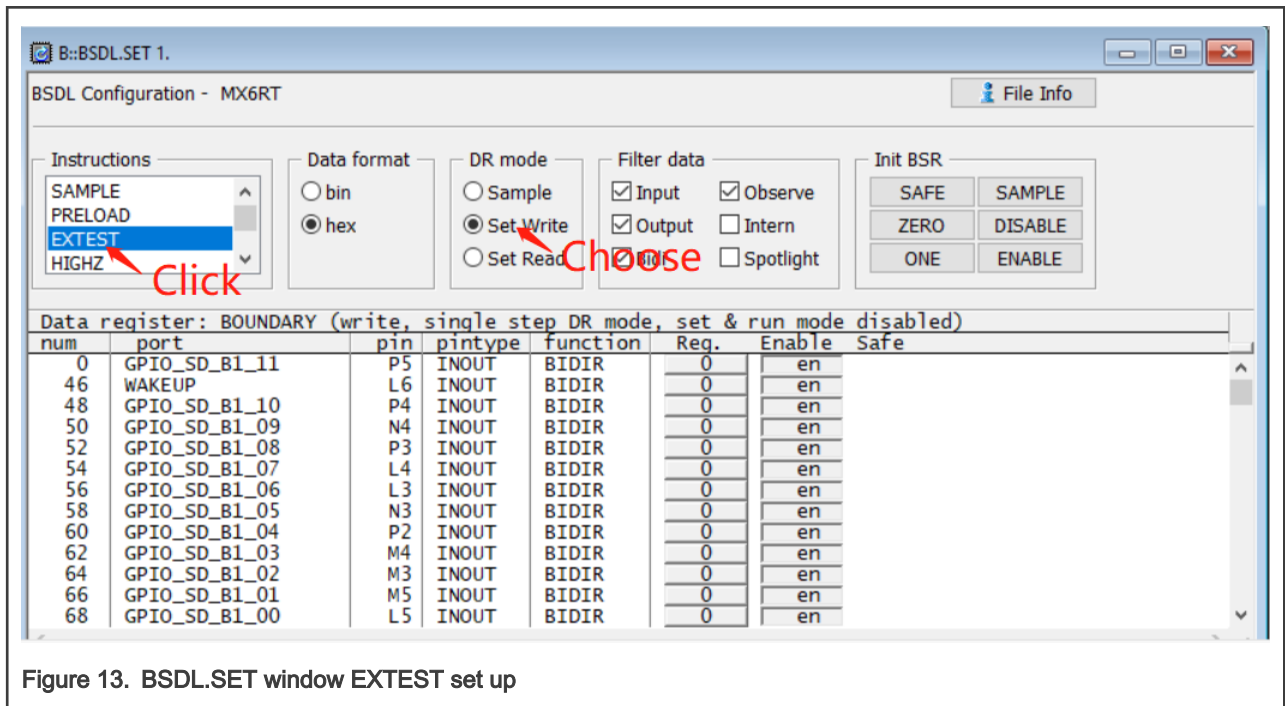
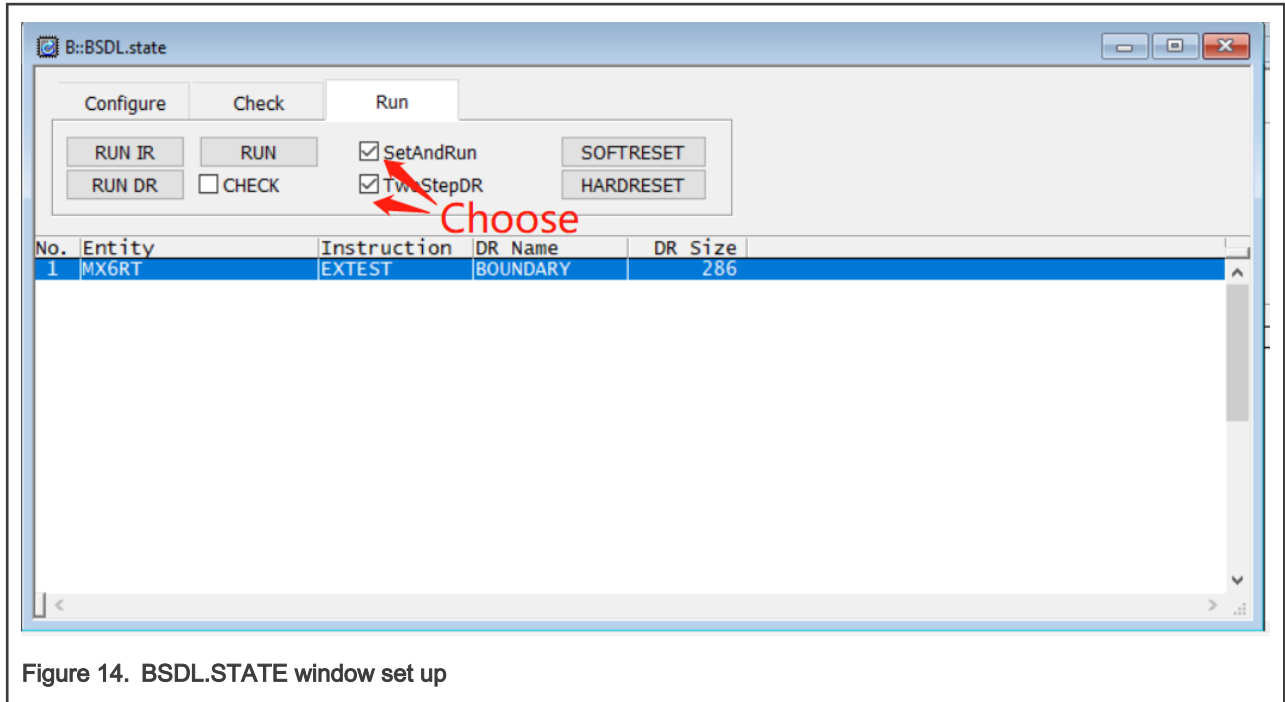

Figure 13. BSDL.SET window EXTEST set up
Figure 14. BSDL.STATE window set up
- In the **Instructions** field, click **EXTEST** and in the **DR mode** field, choose **Set Write** as shown in Figure 13. Then switch to the BSDL.state window and check **SetAndRun** and **TwoStepDR**, as shown in Figure 14.